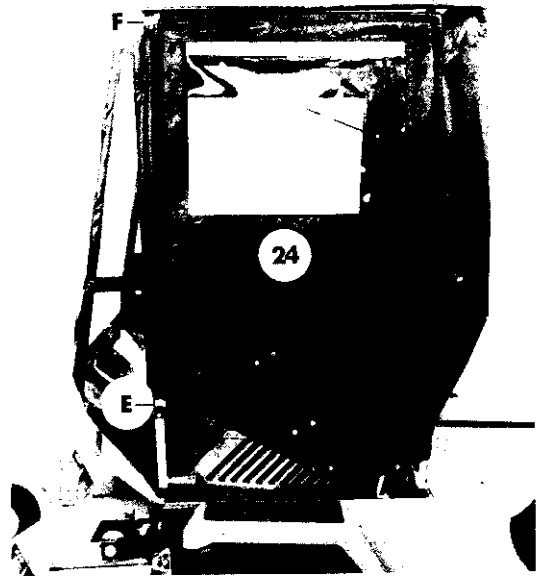

FIGURE 12
STEP 12; SEE FIGURE 12:
- A. Insert the rod at the bottom of the DOOR (24) into the door hinge at REFERENCE E. Slip a door hinge over the rod at the top of the door and secure it to the front post with a bolt and nut at REFERENCE F.